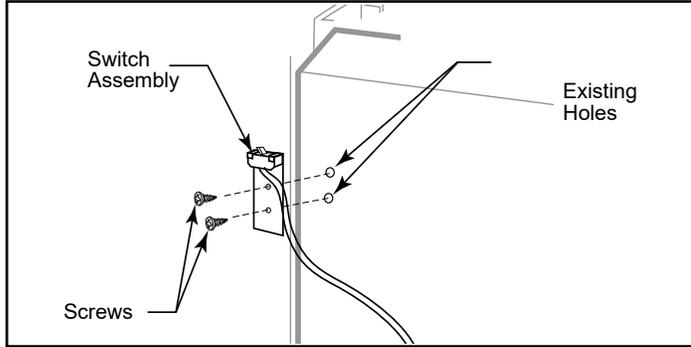

Figure 2.6 - Attach switch assembly to rear shroud.
1. Attach switch assembly to left rear side of stove shroud using two screws and existing holes in shroud, Figure 2.6.